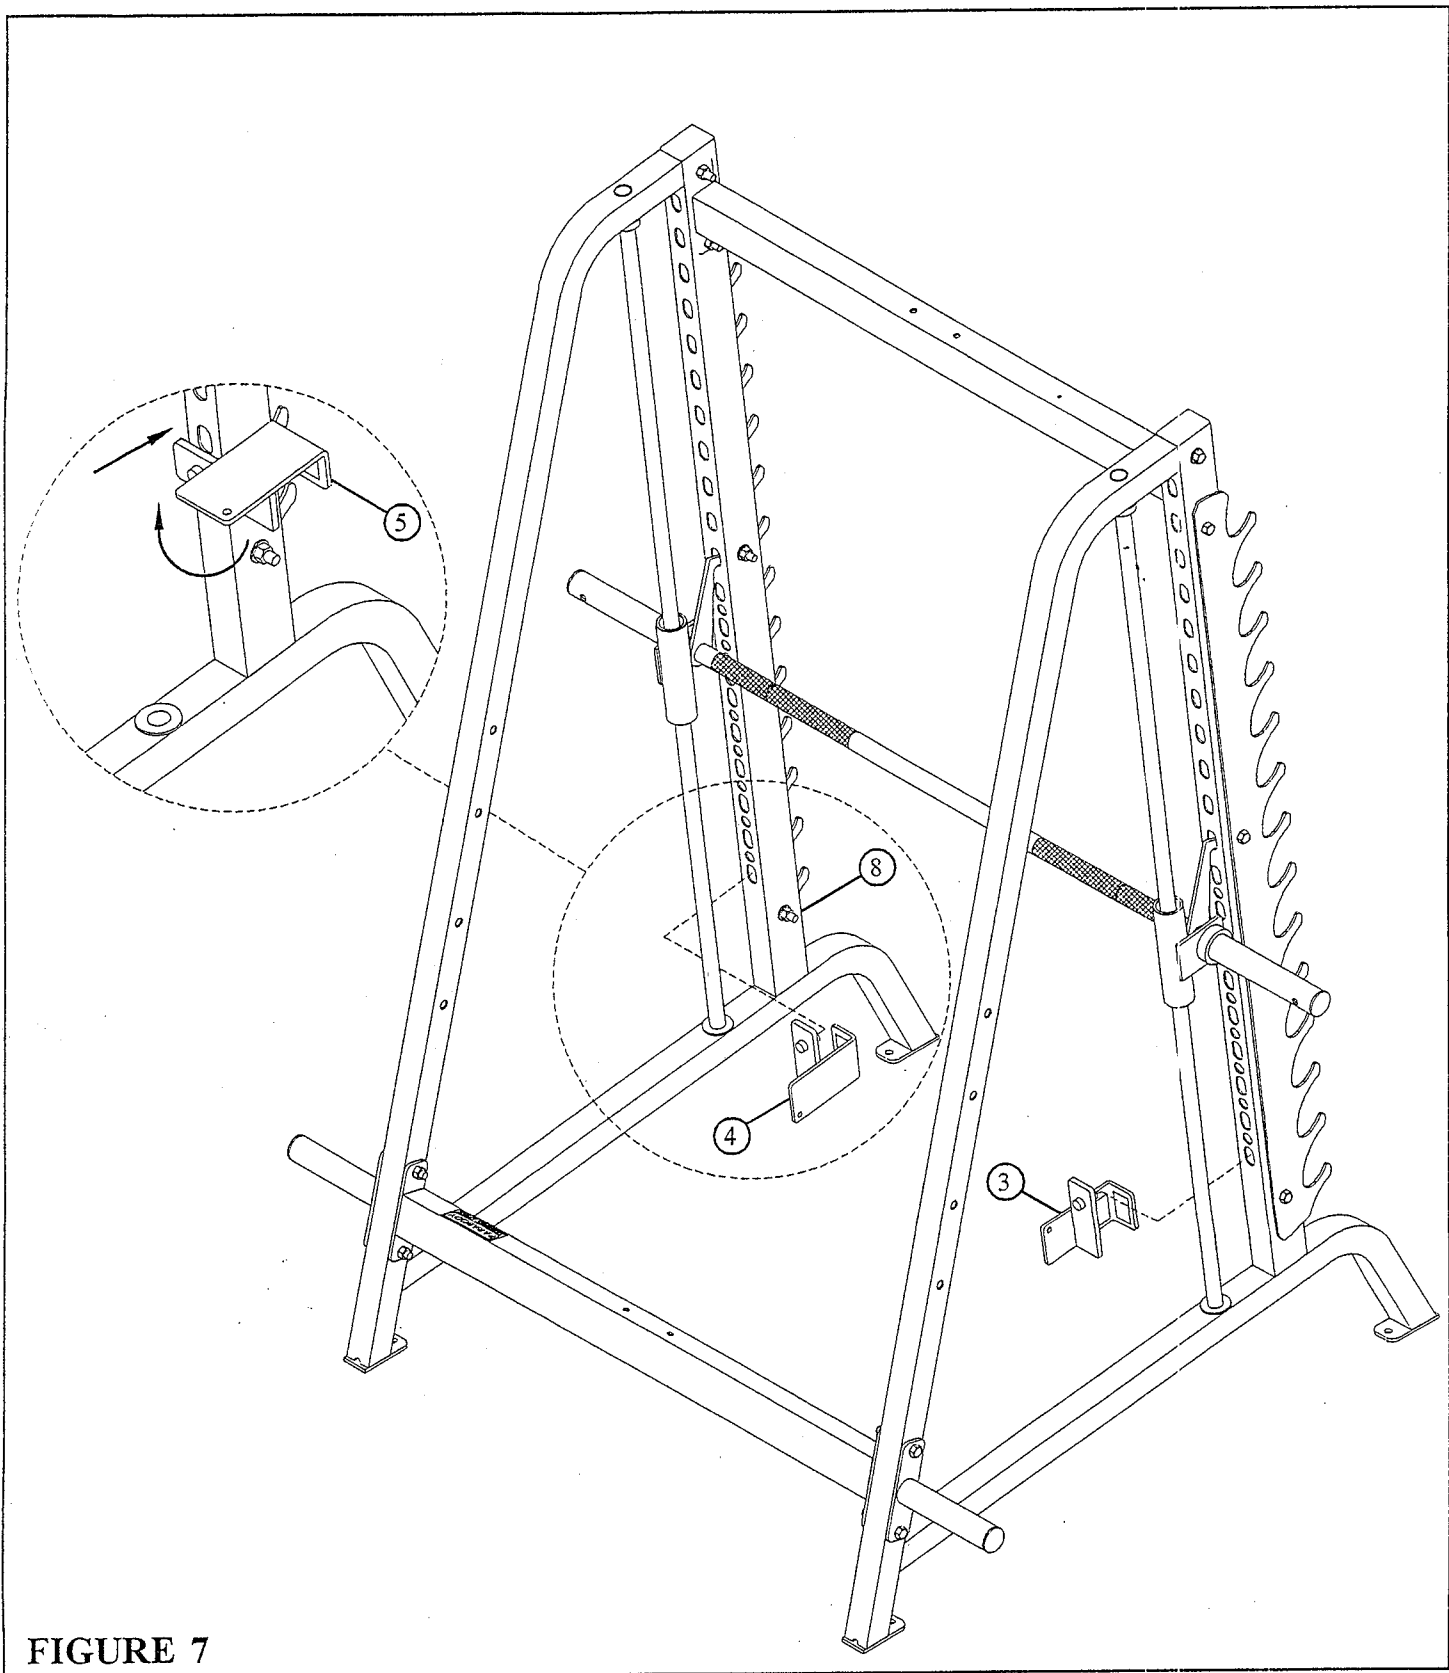

FIGURE 7
- Assemble the LEFT & RIGHT SAFETY STOPS (3 & 4) to the UPRIGHT FRAMES (8) as shown in FIGURE 7.